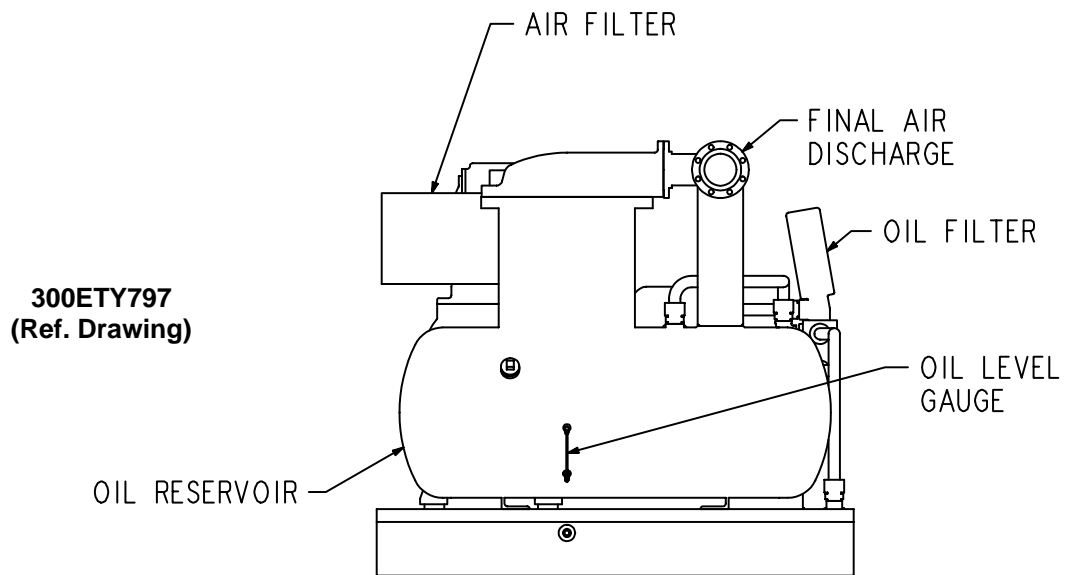

FIGURE 1-5 – AIR COOLED UNIT – LESS ENCLOSURE – OIL RESERVOIR END
**OIL RESERVOIR DRAIN** – (FIGURE 1-5, page 3) The oil reservoir drain valve is located near the center of the oil reservoir just below the separator tower. The drain valve is approximately 5 inches from the floor level. If this height is not sufficient to conveniently drain the oil, some other methods of providing oil drain are: